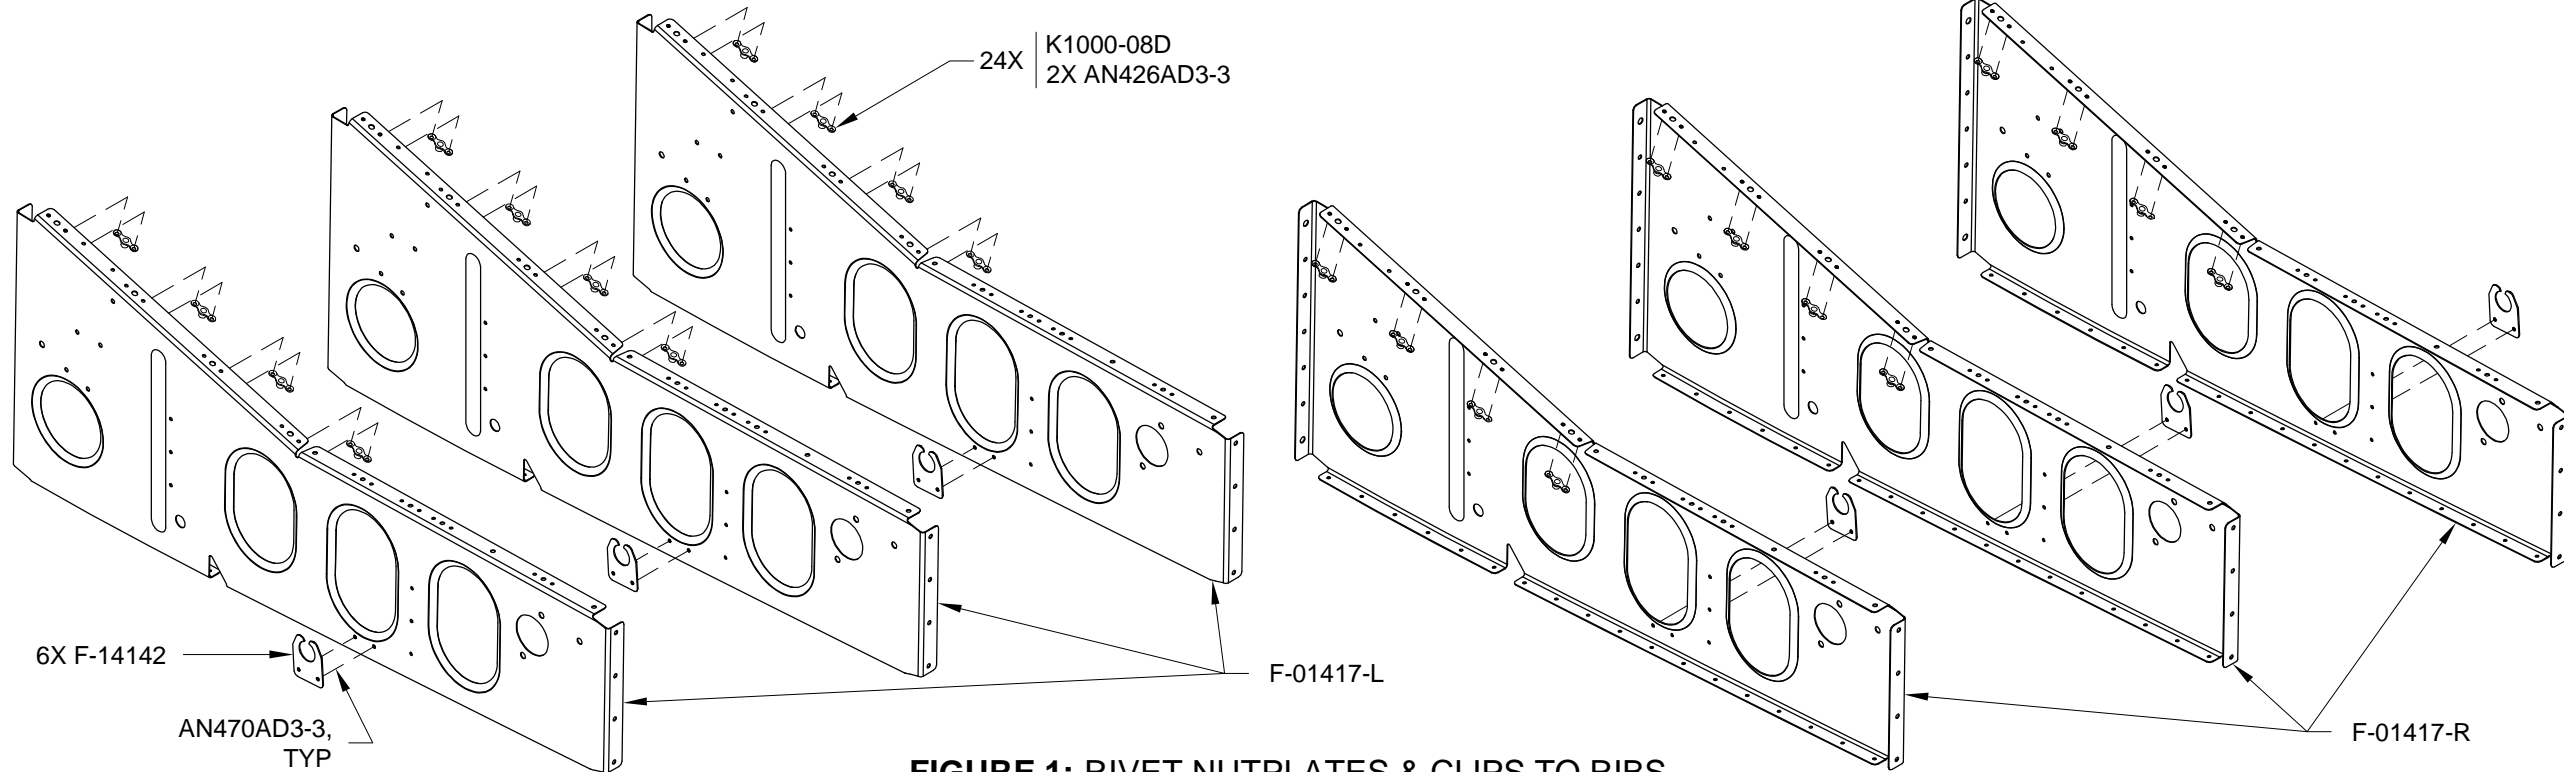

FIGURE 1: RIVET NUTPLATES & CLIPS TO RIBS
Step 3: Rivet the F-14142 Bushing Clips to the F-01417-L & -R Seat Ribs as shown in Figure 1.